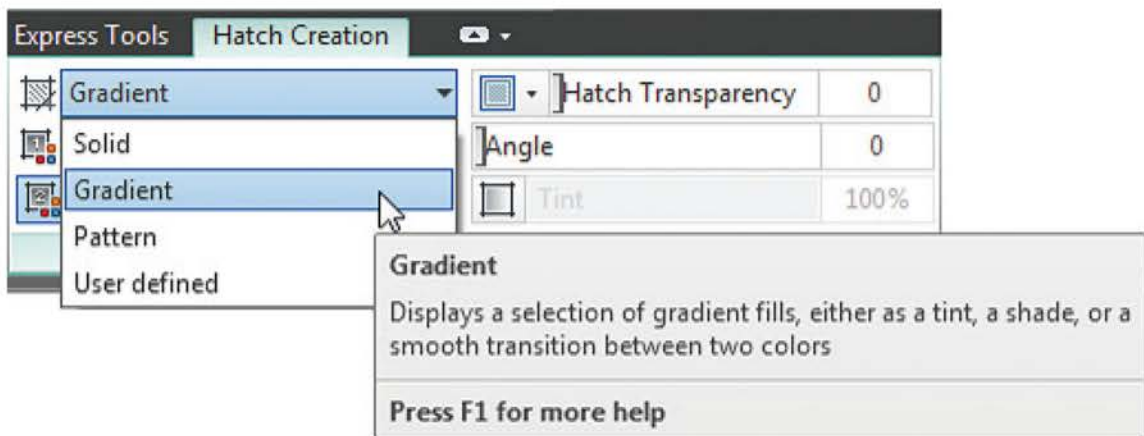
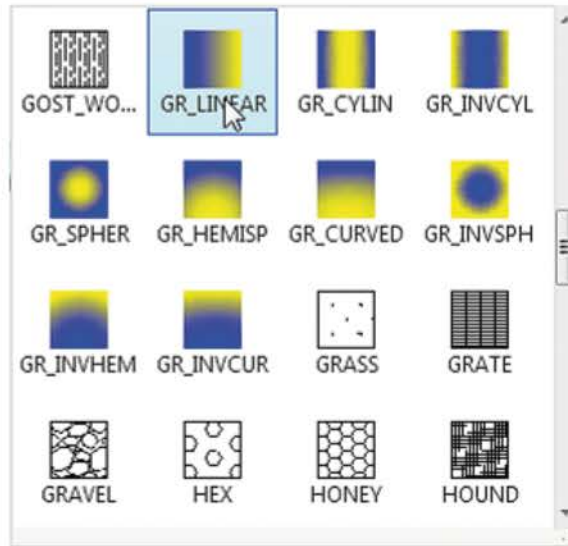

Fig. 7.16 Selecting Gradient in the Hatch Creation/Properties panel
Fig. 7.17 The Gradient patterns in the Hatch Creation/Pattern panel
2. Click **Gradient** in the drop-down menu in the **Hatch Creation/Properties** panel (Fig. 7.16). In the **Hatch Creation/Pattern** panel that then appears, *pick* one of the gradient choices (Fig. 7.17), followed by a *click* in a single area of one of the rectangles in the left-hand drawing, followed by a *right-click*.